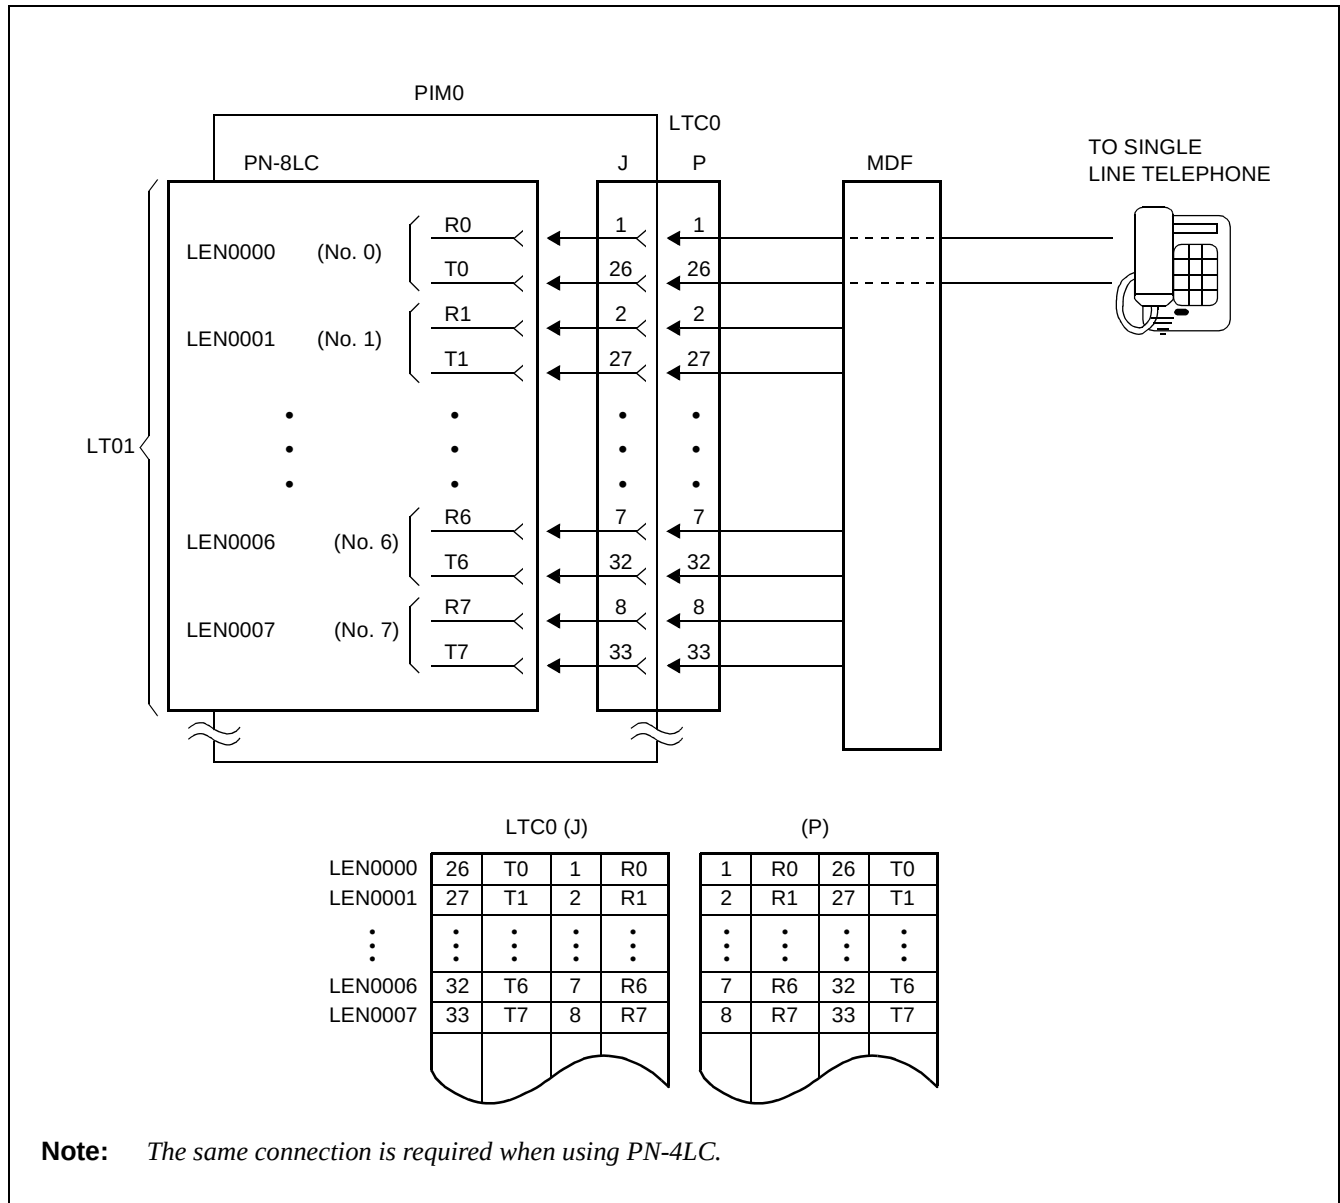

Figure 007-10 MDF Cross Connection for Single Line Telephone (Standard Line)
- (4) Single Line Telephone
- (a) Standard Line (PN-8LC) (see Figure 007-10)